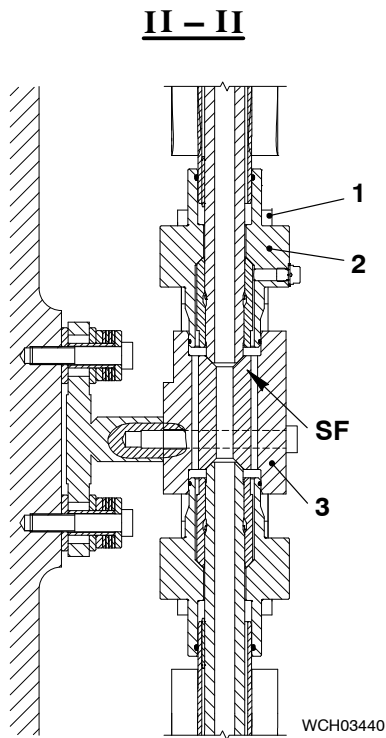
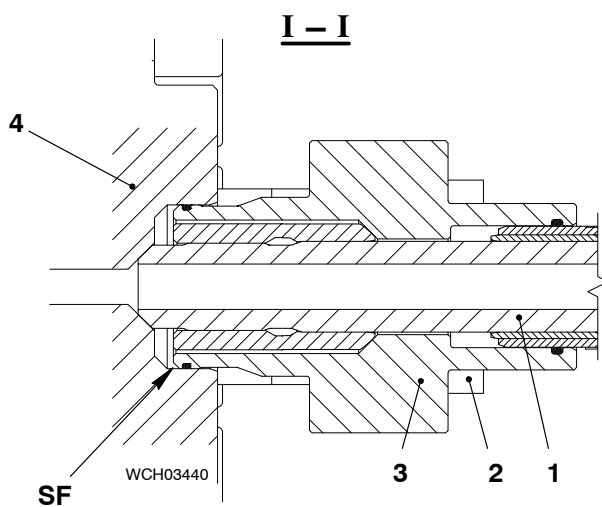

Fig. 5
Fig. 6
- 2) Remove the four screws (1, Fig. 5) from the flange (2).
- 3) Carefully move the flange (2) away from the intermediate piece (3).
- 4) Remove the four screws (2, Fig. 6) from the flange (3).
- 5) Carefully move the flange (3) away from the valve housing (4).